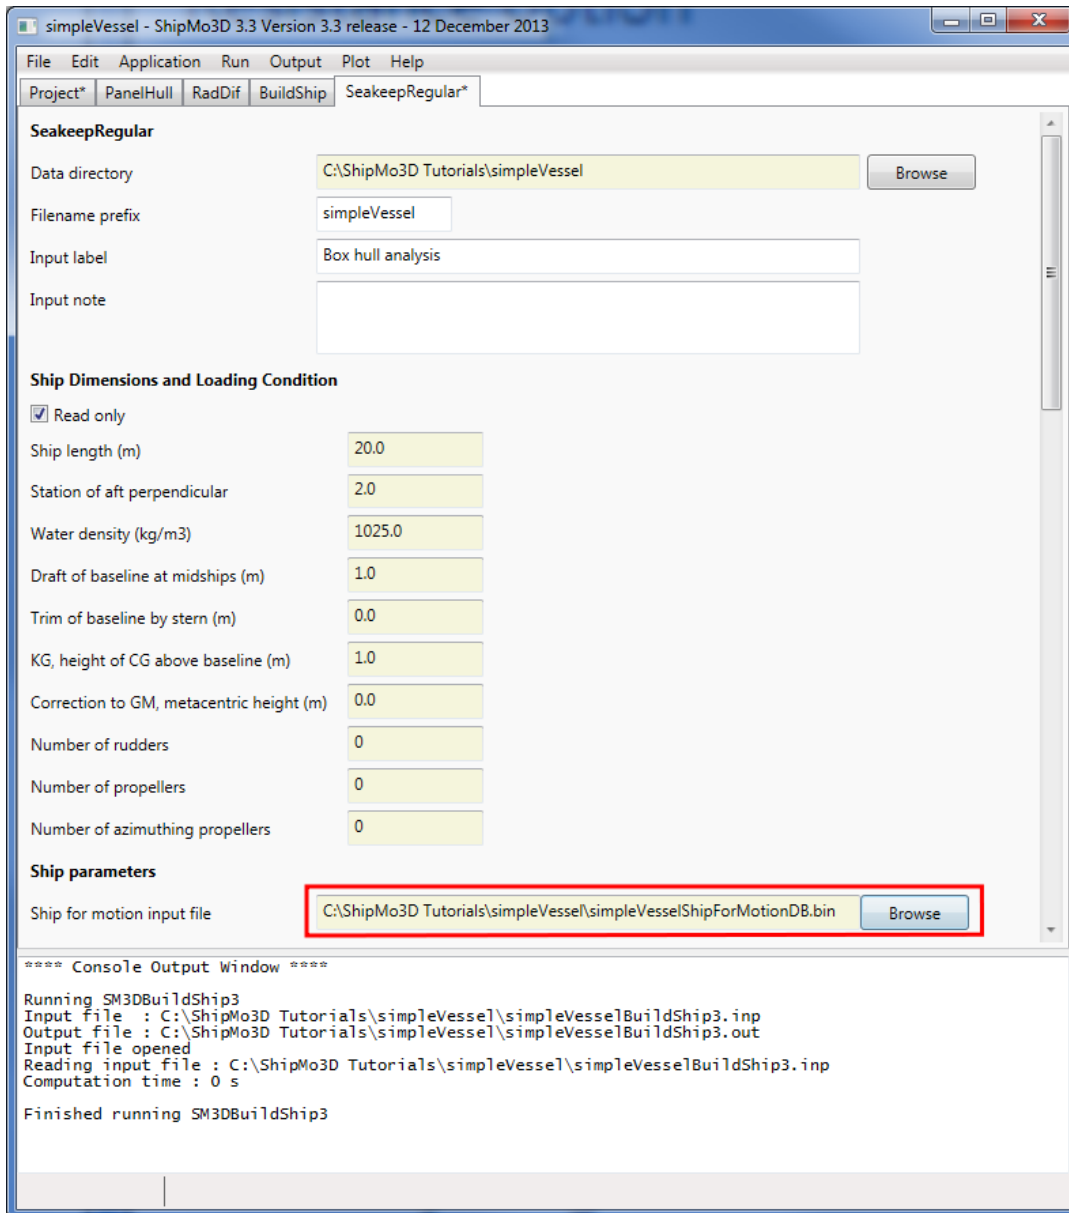

Figure 42: The SeakeepRegular application's pane highlighting where to specify the BuildShip output binary file location.
- ✦ In the “Ship parameters” section of the SeakeepRegular pane, select the “squareBoxShipForMotionDB.bin” input file as shown in Figure 42.